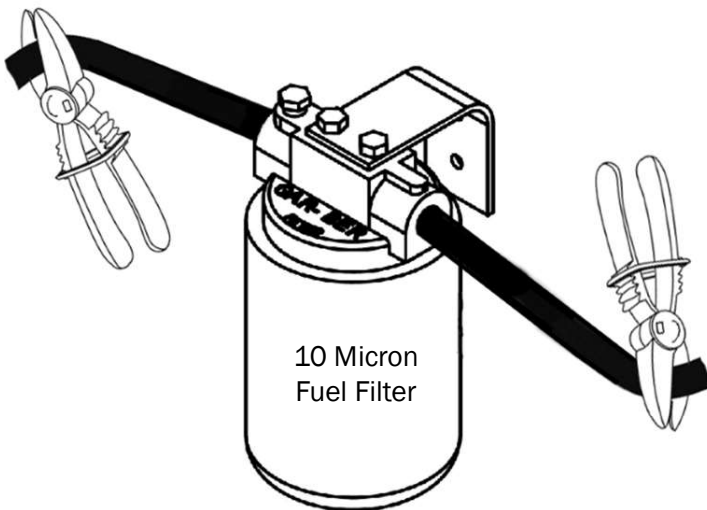

Figure 143
2. Using hose pinch off pliers, clamp off both fuel lines going to the fuel filter. Reference Figure 143.